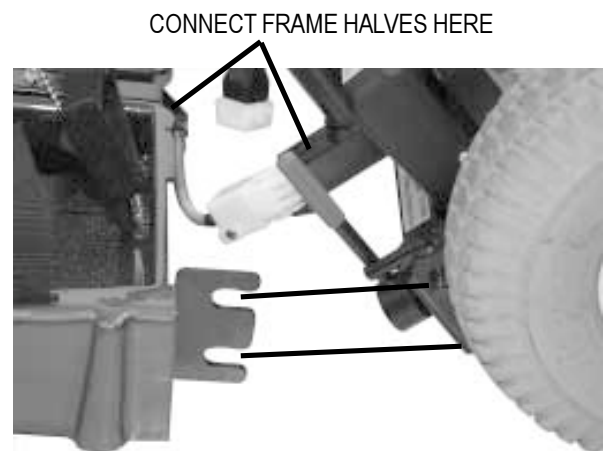

FIGURE 18. FRAME LOCK
3. Align the lower slots on the rear of the front section to the corresponding pegs on the front of the rear section. See figure 18.